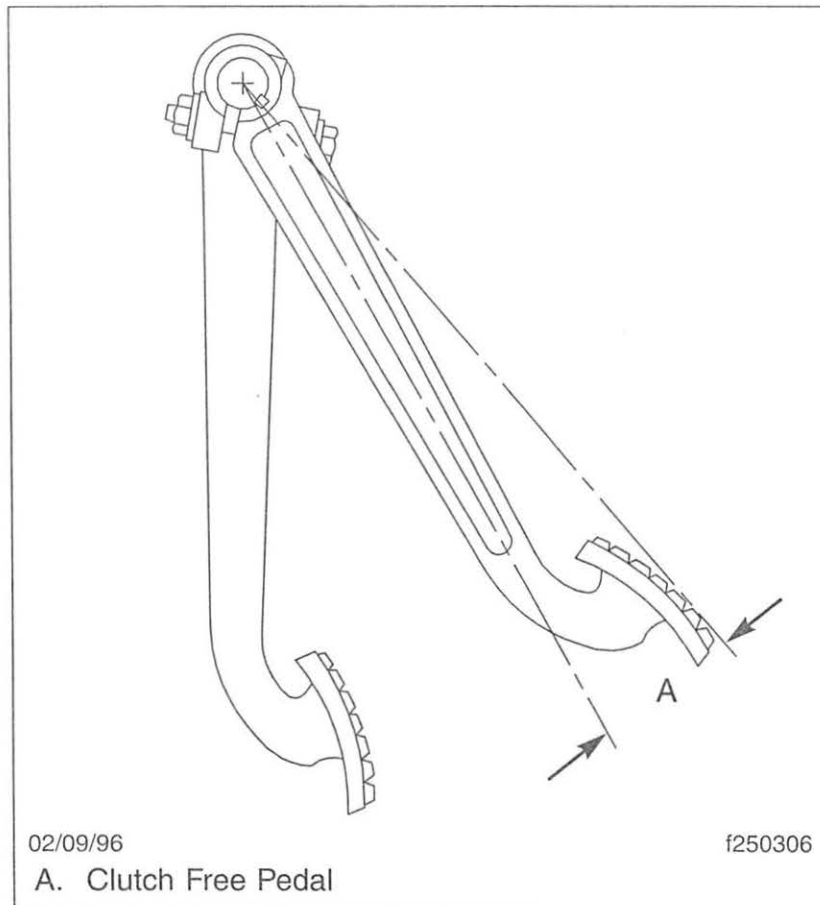

Fig. 11.9, Clutch Free Pedal
21. The main indicators for assessing clutch wear are clutch free pedal and clutch brake squeeze. Clutch free pedal is a decreased resistance felt at the top of the clutch pedal stroke. See **Fig. 11.9**. With the clutch pedal in this range, the clutch is fully engaged, and the only resistance to clutch pedal